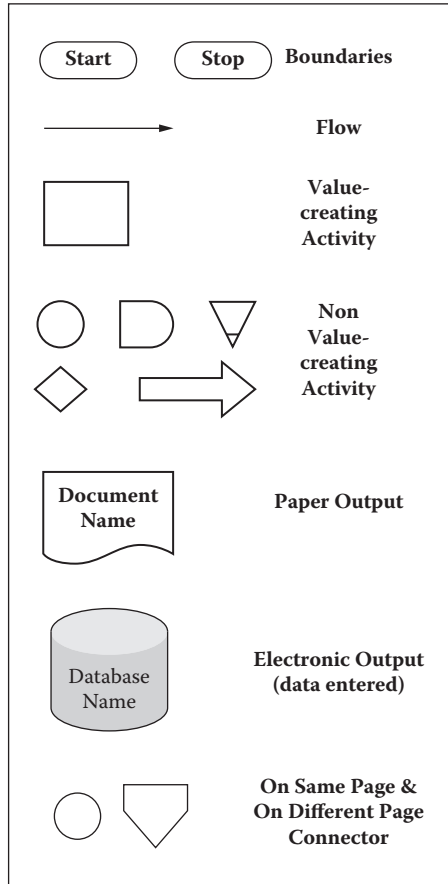

Figure 6.5 Use meaningful symbols.
3. Build intelligence into your flowcharts; make use of all applicable symbols (Figure 6.5).